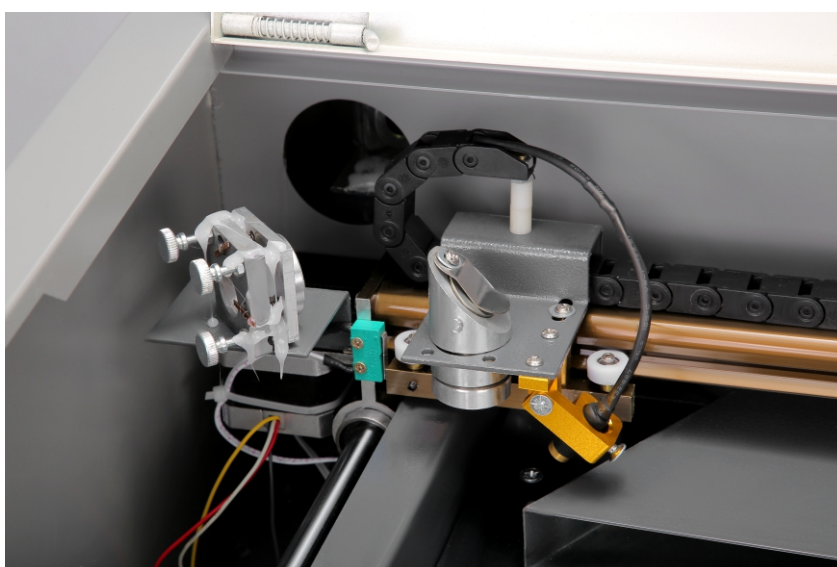

Fig. 4-2 - The Second Mirror in Position A
- b. Move the X-axis beam to Position A (Fig. 4-2) near the laser tube.